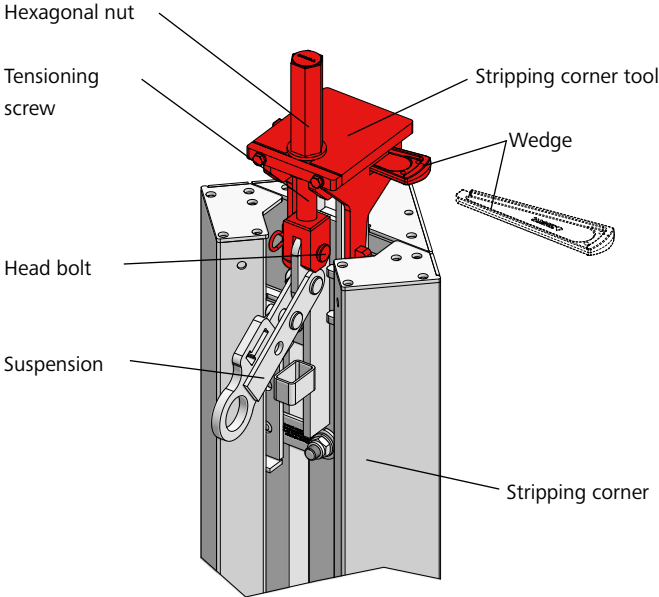

Fig. 55.3
1. Place the stripping support / stripping corner tool onto the connecting device at the top of the stripping corner. Make sure the suspension is inclined downwards (Fig. 55.3).
2. Connect the stripping support / stripping corner tool to the stripping corner with the head bolt 16/40 and cotter pin 4 that are both integrated into the tensioning screw of the stripping support or the stripping corner tool (Fig. 55.3).
3. Lock the stripping support / stripping corner tool to the stripping corner by driving the stripping corner's wedge with a few hammer blows into the opening on the side of the stripping support / stripping corner tool (Fig. 55.3).